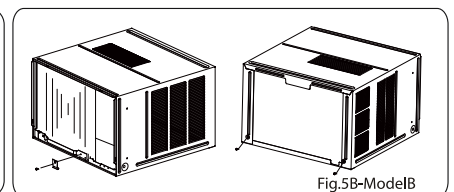

Fig. 5B-Model B
1. Remove one screw securing the chassis fixing bracket, then take down the chassis fixing bracket. Remove two screws located on the back of the cabinet as shown in Fig. 5B.